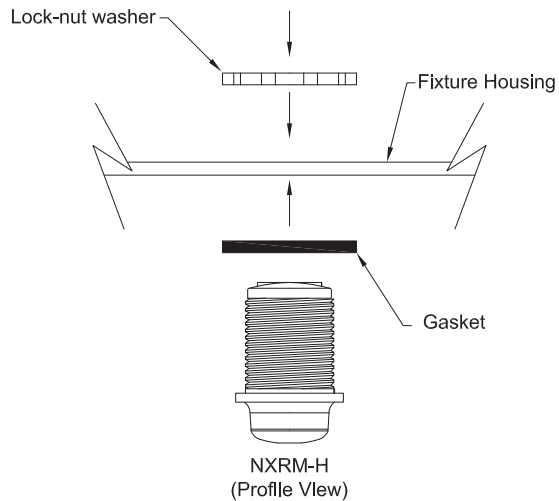

Figure 1
2. Insert the stem through the opening in the housing. *See figure 1.*